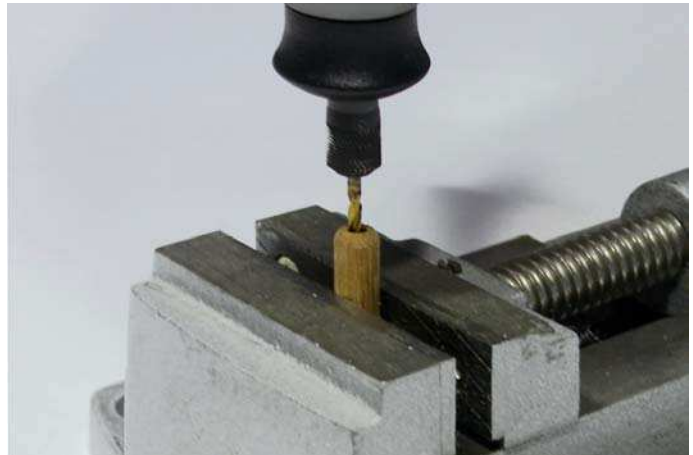

Fig.14: Axially drill the wooden adaptor.
- Axially drill **3 mm** diameter hole through each wooden adaptor “TCAR” (see figure 14);